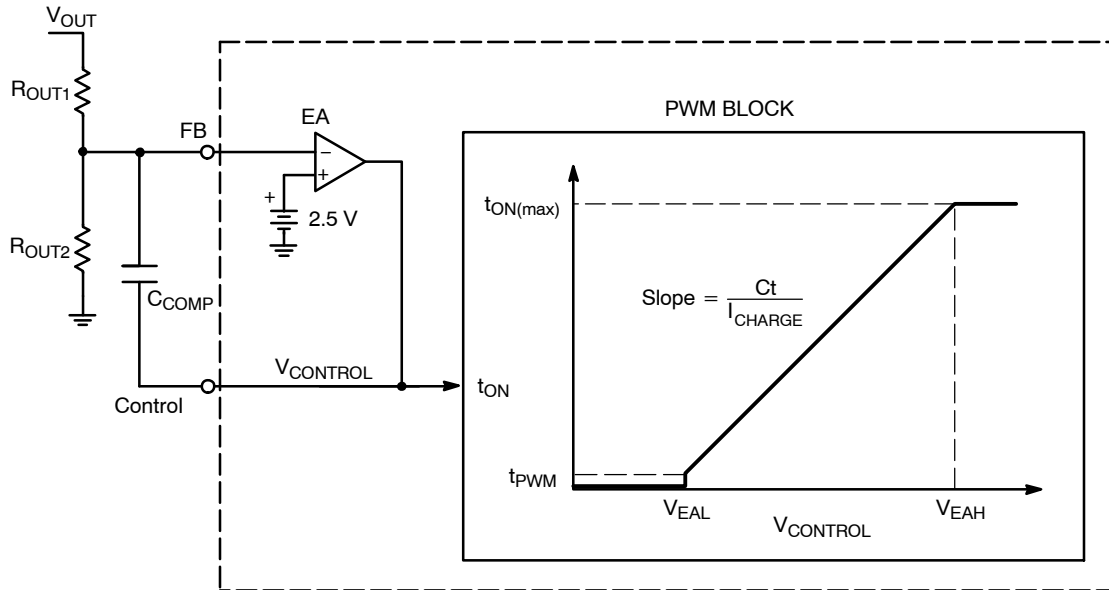

Figure 25. Error Amplifier and On Time Regulation Circuits
The NCP1606 is configured to regulate the boost output voltage based on its built in error amplifier (EA). The error amplifier's negative terminal is pinned out to FB, the positive terminal is tied to a $2.5 \text{ V} \pm 1.6\%$ reference, and the output is pinned out to Control (Figure 25).